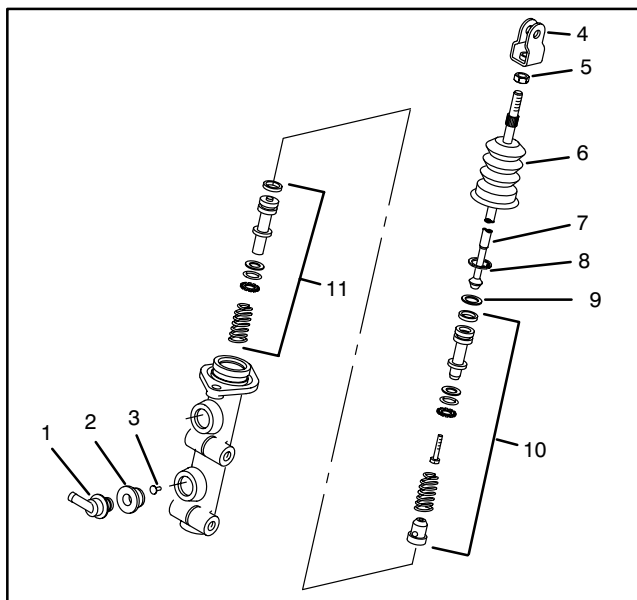
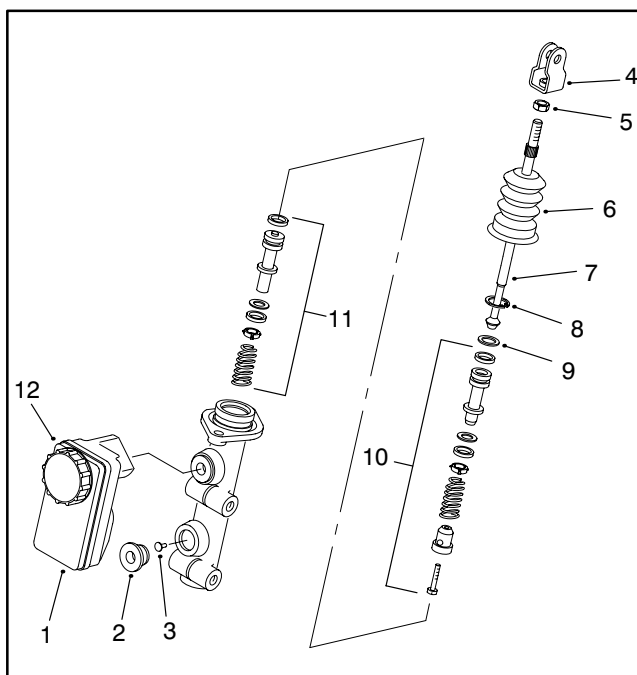

Figure 12
Figure 13
3. Remove two (2) capscrews and lockwashers securing brake cylinder to backing plate (Fig. 12). Remove brake cylinder assembly.
**Note:** Unlike older versions (Fig. 12) of the master cylinder, newer versions (Fig. 13) have the reservoir attached to the cylinder.